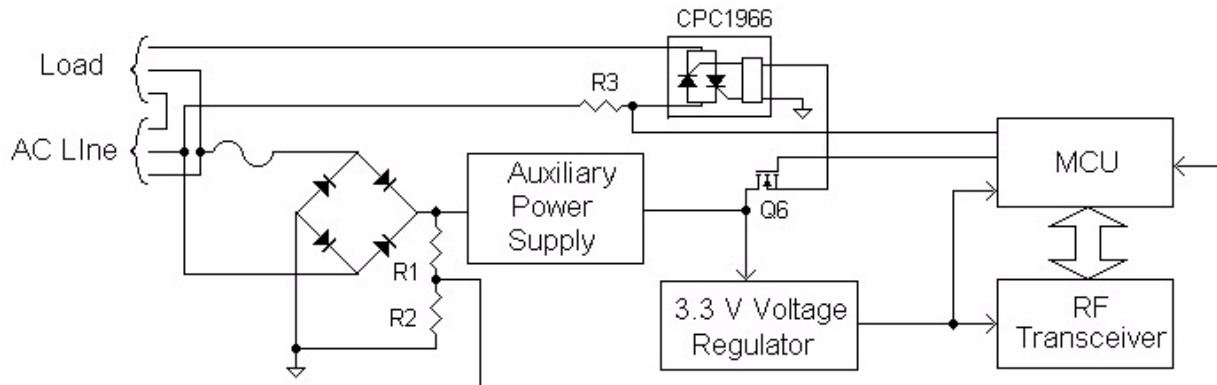

Figure 2. A Block Diagram of the Current Sensing Power Switch SCR with ZMOTION Control Reference Design with a ZMOTION Detection Module II
The Base Power Board and attached ZMOTION Detection Module II are powered from a single-phase AC line with a 90–240 V voltage range. The Base Power Board provides up to 3 A load current at 240 V AC RMS. The dimensions of the Base Power Board are 2.85" (L) x 1.85" (W) x 0.7" (H). A block diagram of the Board is shown in Figure 2.